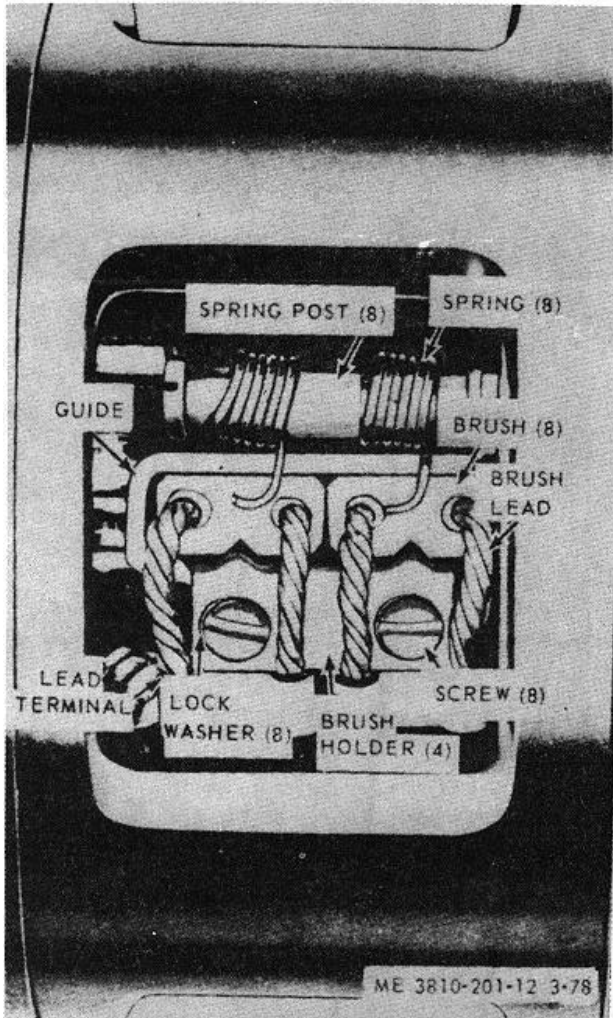

Figure 3-65. Starter motor brush replacement.
(3) Refer to figure 3-65, remove screw and lockwasher from brushholder.